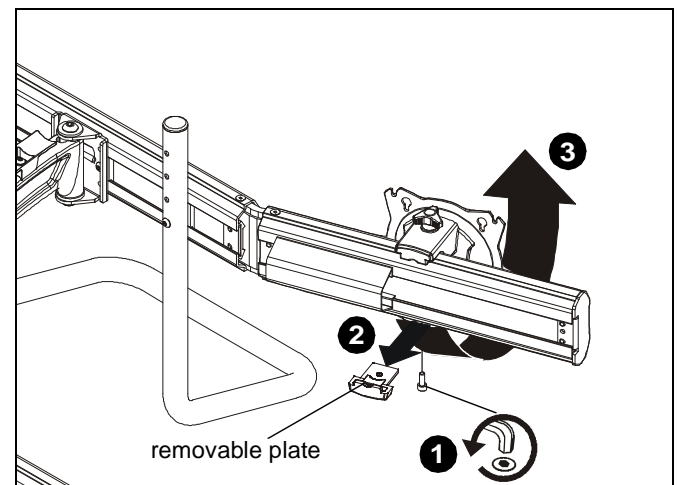

Figure 17
1. Remove socket head cap screw from bottom of faceplate assembly. (See Figure 17)
2. Slide out removable plate from bottom of faceplate assembly. (See Figure 17)
3. Remove faceplate assembly from array arm. (See Figure 17)